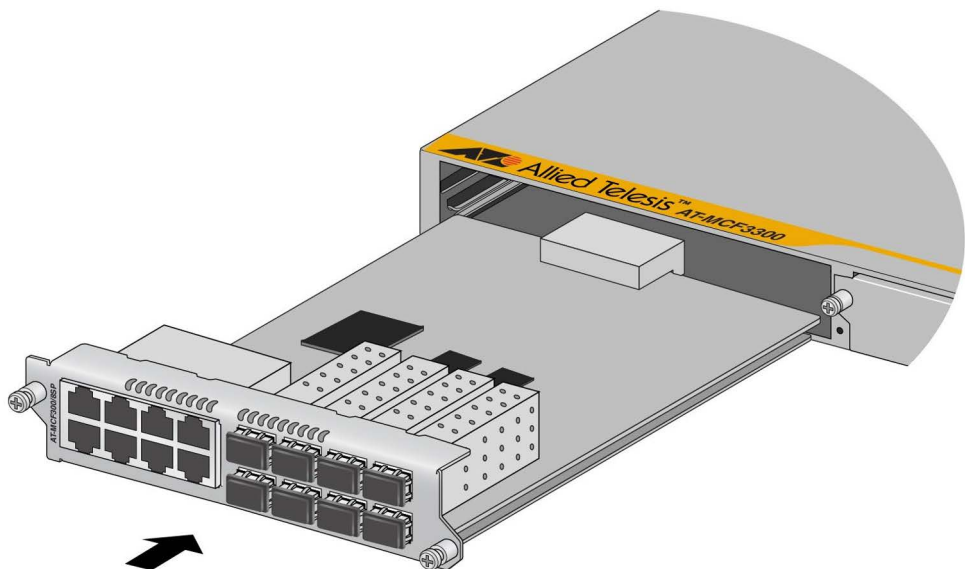

Figure 11. Sliding a Media Converter Module into the Chassis
2. Install a media converter module in the chassis by aligning its edges with the guides in the slot. Carefully slide it into the chassis until it makes contact with the backplane connector in the chassis. Refer to Figure 11.